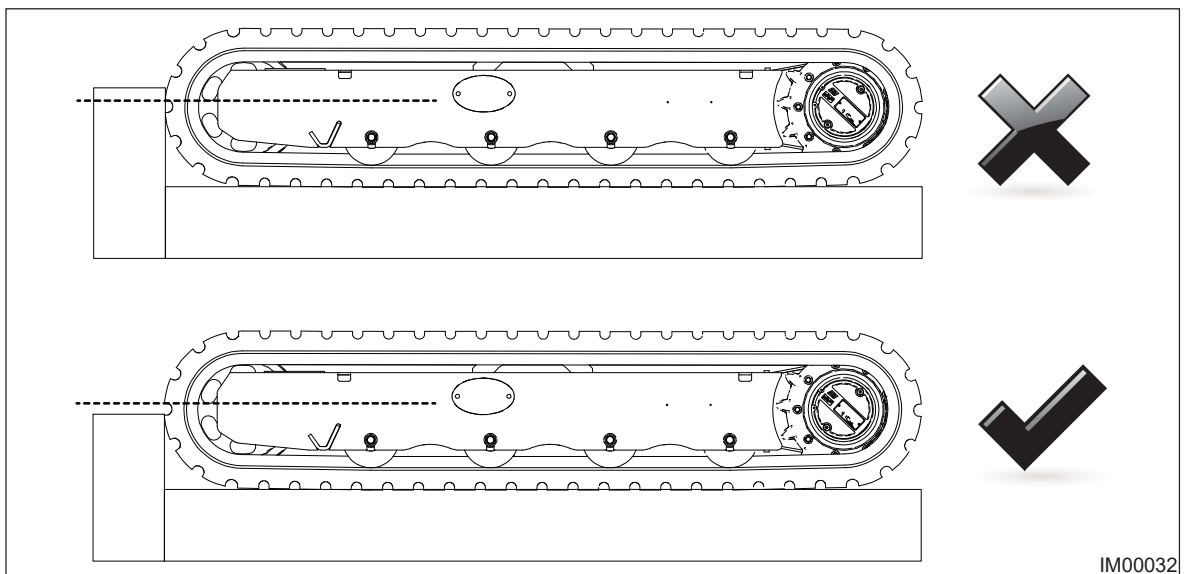

Fig: 6.2 - Tracking Obstacles
- Do not attempt to track over obstacles which are taller than the centre line of the idler (Fig: 6.2).